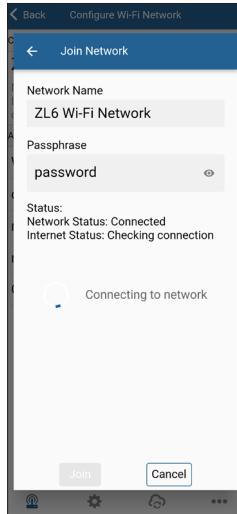

Figure 21 Configuration of hidden personal network
- Application Tab (Figure 21):